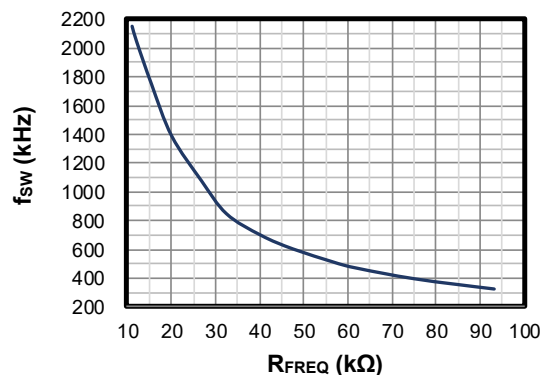

Figure 1: f_{SW} vs. R_{FREQ}
7. The MPQ4313's switching frequency (f_{SW}) can be configured by R3, the FREQ pin's resistor (R_{FREQ}). R3 can be estimated based on the relationship between f_{SW} and R_{FREQ} (see Figure 1).